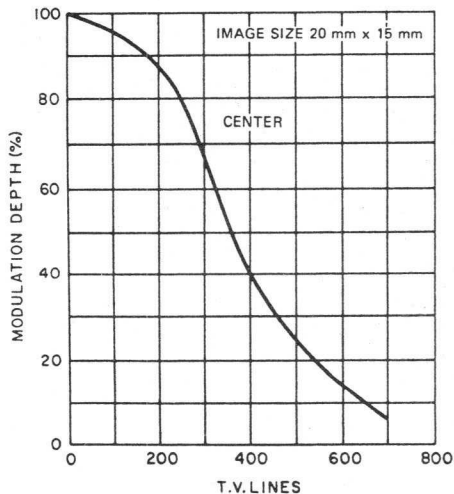

FIG. 3 TYPICAL HORIZONTAL SQUARE WAVE RESPONSE
- 15) Uncompensated horizontal amplitude response is measured with 100% contrast square wave test pattern, normalized at 50 TVL, and corrected for lens resolution losses. The bandwidth of the camera amplifiers used are flat beyond 5 MHz. For response curve see Figure 3.